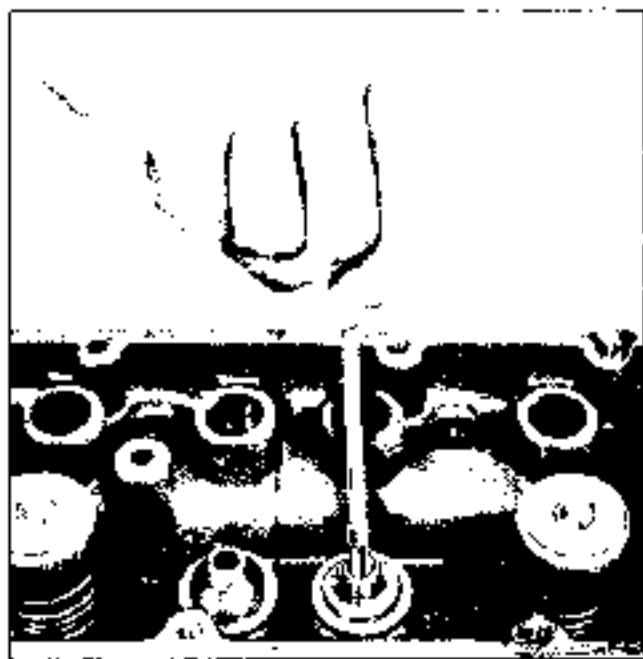

Fig. 6-28 Cleaning Valve Guide Bore
2. Thoroughly clean the valve guides using tool J 8161 (Fig. 6-28).